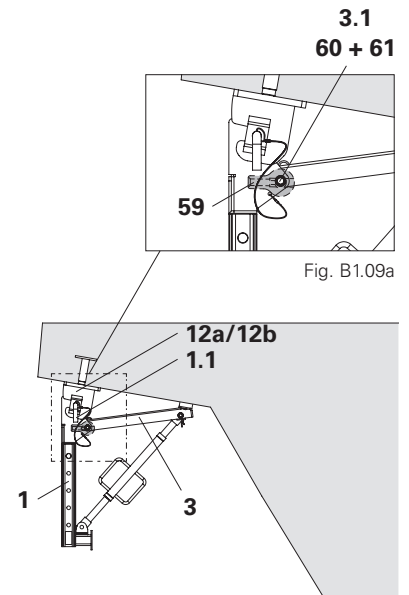

Fig. B1.09
1. Bolt Eye Nut RCS DW15 (59) into Bracket Post VGK (1) using Pins Ø16x90 mm coat (60) and secure with Cotter Pins 4/1 ga (61). (Fig. B1.09 + Fig. B1.09a)
1. Attach Eye Nut RCS DW15 (59) to Bracket Cantilever VGK 50 (3) and Bracket Post VGK (1) using bolts and cotter pins (3.1). (Fig. B1.09 + Fig. B1.09a)